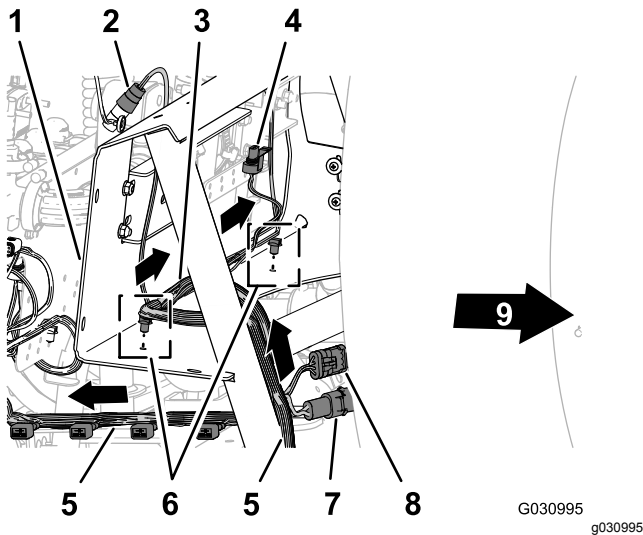

Figure 98
1. Route the 203 cm (80 inch) branch of the wire harness inboard of the support strut for the valve mount and rearward toward the 10-valve mount as shown in Figure 98.
2. Route the 81 cm (32 inch) wire-harness branch for the flow meter and agitation valve across the front of the manifold mount (Figure 98).
3. Insert the push-in fasteners of the 81 cm (32 inch) wire-harness branch into the holes in the lower flange of the manifold mount (Figure 98).